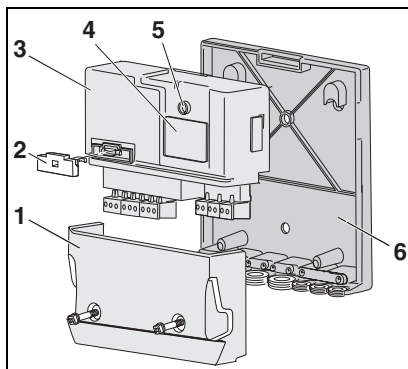

Fig. 1 Panoramica EM10
LED reports on the EM10 module (fig. 1, pos. 5)